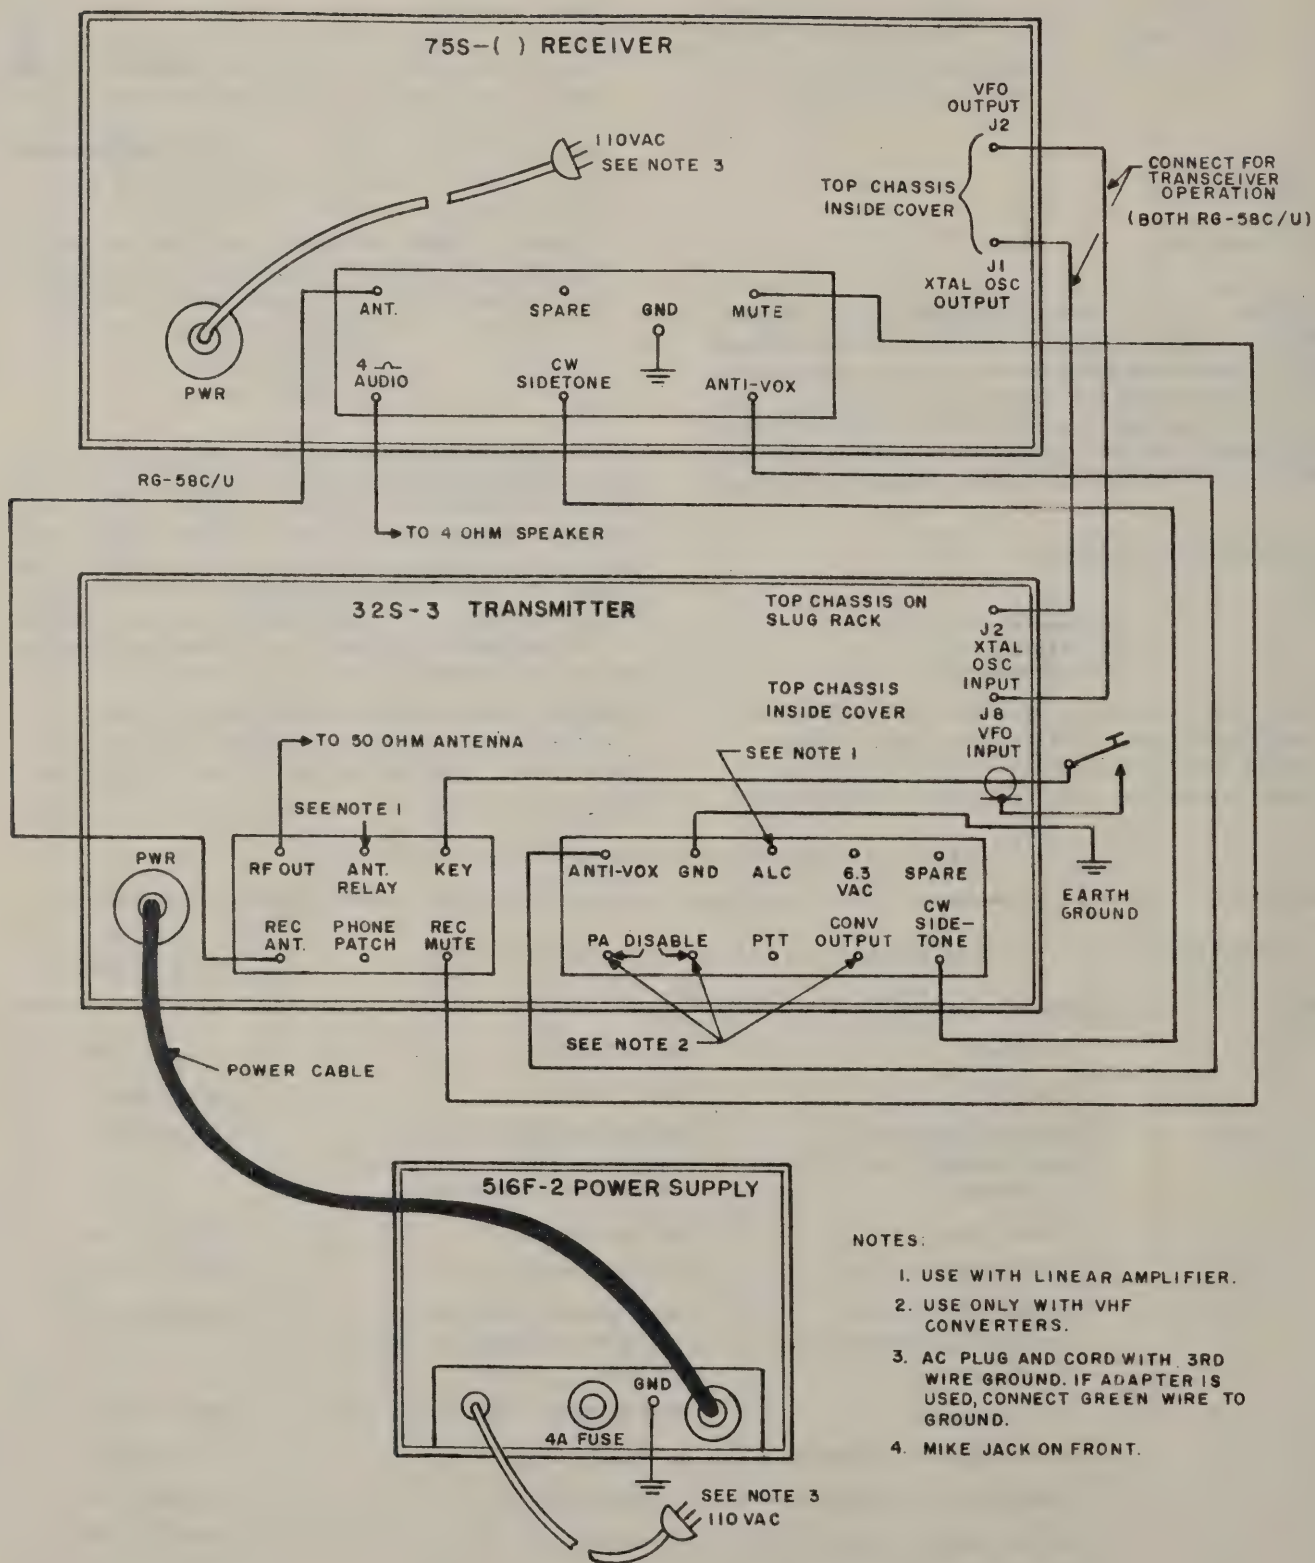

Figure 1-2. Receiver-Transmitter Interconnections
a. Transmitter and receiver must be connected as shown in figure 1-2.
d. Set zero set knob (3) on the 32S-3 so that hairline indicates same frequency as that of receiver.
a. Connect the 32S-3 and 75S-() as shown in figure 1-2 or 1-3.
If the 32S-3 is connected with a 75S-() Receiver, as shown in figure 1-2, and it is desired to zero beat the 32S-3 to a frequency tuned on the receiver, set CW CAL knob to 3 o'clock, and gently push in on the shaft in the center of the CW CAL knob (13) while rocking the tuning dial across the receiver frequency. A signal will be heard as the 32S-3 CW CAL signal passes across the receiver frequency. Zero beat this signal by manipulating the 32S-3 tuning dial. The level of the CW CAL signal is adjustable with the CW CAL knob. Maximum output is obtained with the control rotated fully clockwise.
The tone oscillator output is fed to SIDETONE jack J19 when the key is closed. The SIDETONE ADJUST is a screwdriver control located under the top cover on a standoff bracket to the right of the vfo. With the 75S-() and 32S-3 connected as shown in figure 1-2, and the 75S-() audio gain control set in the desired position for CW operation, key the 32S-3, and adjust the SIDETONE ADJUST control for the desired level at the receiver audio output.